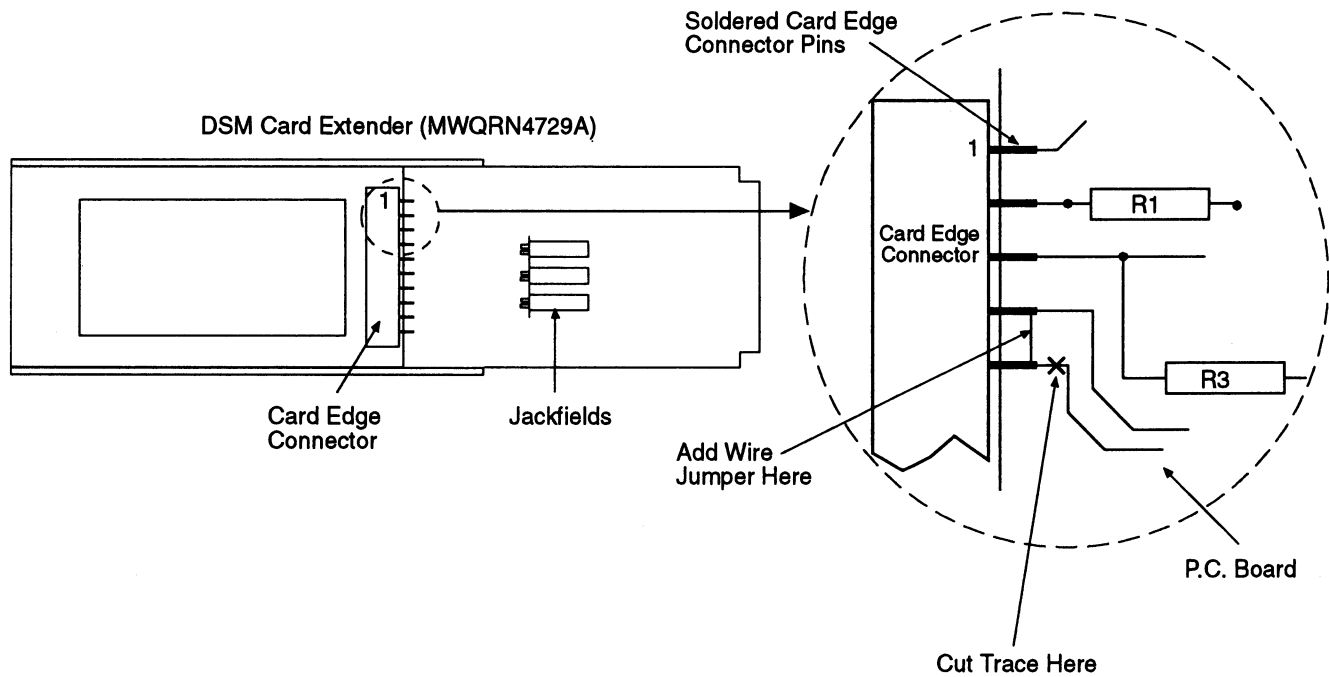

Figure 10. Siemens Card Extender Board Modification for Reference DSM
You must use put the reference DSM on modified card extender board. To modify the card extender, refer to Figure 10.
This extender card is used with the reference DSM. It ensures the reference DSM has constant internal delay while in the local looped back mode. To modify the card extender, refer to Figure 10.
- Step 3. Put the reference DSM on a modified Siemens Card Extender Board (Figure 10) and insert it in any unused slot.